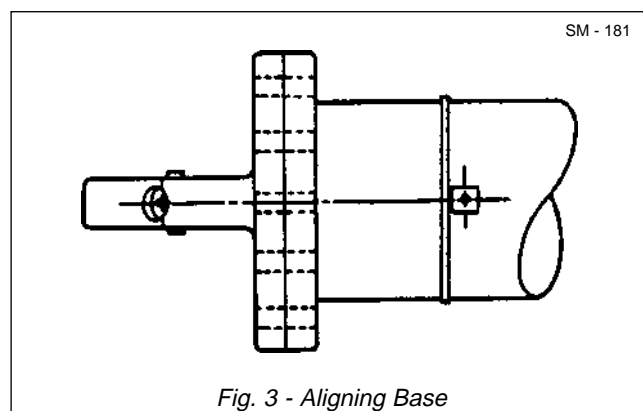

Fig. 3 - Aligning Base
1. Replace grease fitting (25) in end and replace bushings (2 & 17) in base (3) and end (26), respectively, if removed.
2. Install seal (20), wear ring (21) and wiper (22) into tube (19).
3. Replace seals (15) on tube (16) and place tube in tube (13).
4. Place wear ring (11) and piston rings (12) on tube (13), and install in tube (19).
5. Install seal (8), wear ring (9) and wiper (10) in tube (7).
6. Install wear ring (6) on tube (7) and place inner tube (7) in outer tube (19).
7. Place backup ring (24) and 'O' ring (23) on end (26).
8. Install end (26) assembly into tube (13) and tighten to a torque of 1 900 - 2 300 Nm (1 400 - 1 700 lbf ft).
9. Install set screw (14) into tube (13).
10. Replace 'O' ring (5) and wiper (4) on base (3).
11. Align base (3) and tube (19) as shown in Fig. 3.
12. Secure base (3) to tube (19) with bolts (1) and nuts (18). Tighten bolts (1) to a torque of 142 - 156 Nm (105 - 115 lbf ft).